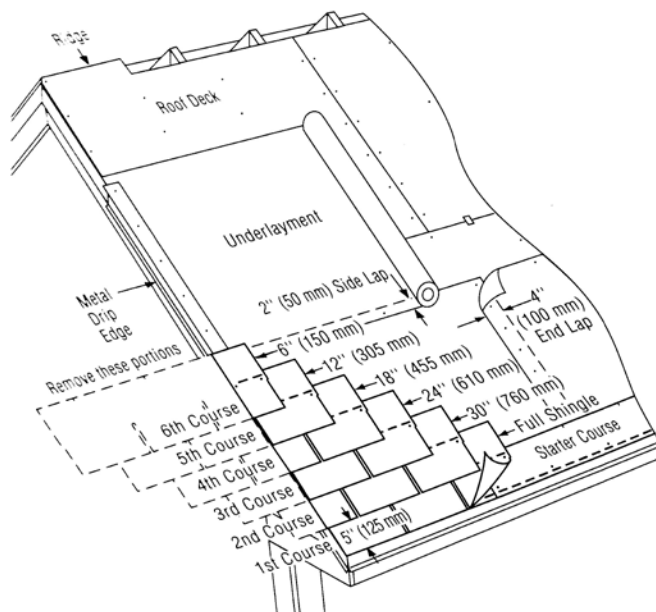

Figure 12-7: Applying the first 6 courses on a standard slope.
1ST COURSE: Apply a full shingle at the lower left corner of the roof. Make tabs lie flush with the edges of the starter course. In this way, sealant on the starter strip will adhere to the first-course tabs and help keep them from lifting in high winds (Figure 12-7).
1. Cut 6" off the left side of a shingle and install this 30" piece over and above the first-course shingle, in line with the left edge of the starter course. Leave the 5" tabs of the first-course shingle exposed (Figure 12-7).
2. Cut 12" off the first shingle of the third course, 18" off the first shingle of the fourth course, 24" off the first shingle on the fifth course, and 30" off the first shingle of the sixth course. Apply each with its left edge in line with the previous course (Figure 12-7).